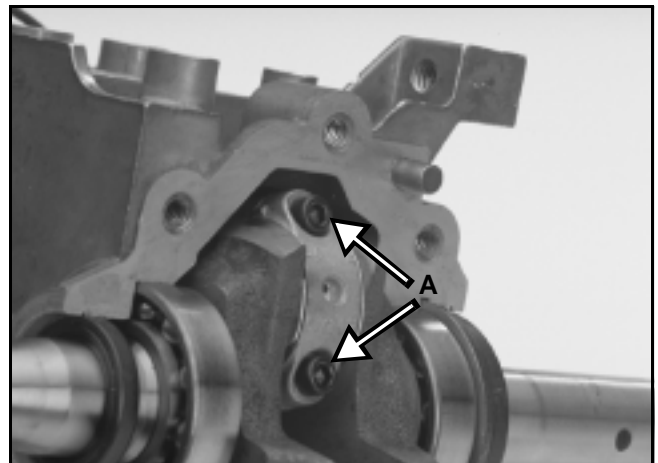

Figure 71
3. Carefully remove the HSH (hex, socket head) cap screws (A) (see Figure 71) to remove the connecting rod cap and the split bearing liner. The needle roller bearings are under the split bearing liner. (See Figure 72.)